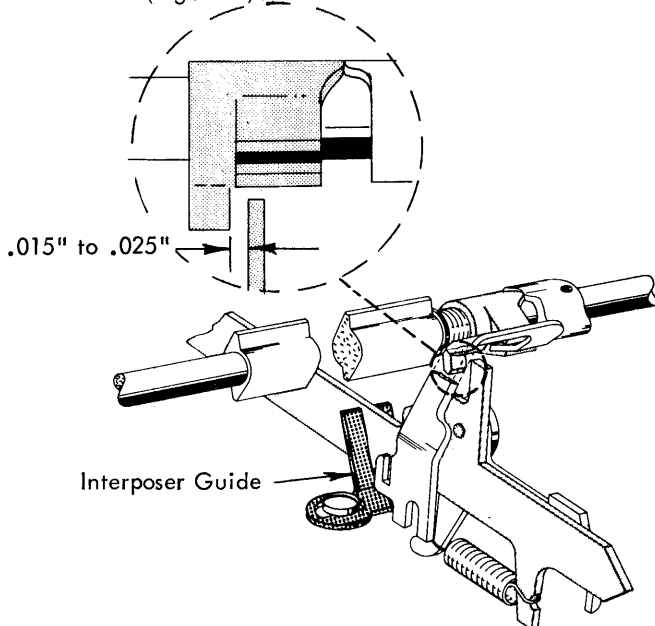

FIGURE 195. Spacebar Interposer Guide Adjustment
- c. Spacebar Interposer Guide - Adjust the interposer guide left or right to obtain .015" to .025" clearance between the interposer and the lockout cam (Fig. 195). The filter shaft should be in its rest